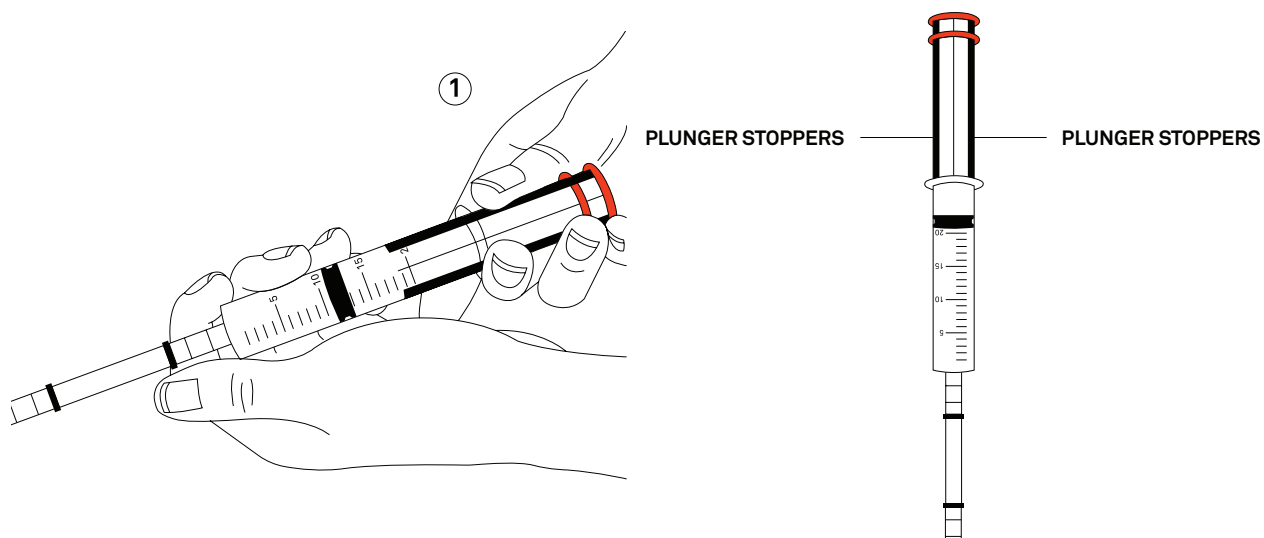

Figure 9 Let the plunger stoppers snap
11. Pull on the plunger of the vacuum syringe until the end of the plunger meets the plunger stoppers and snaps (Figure 9).